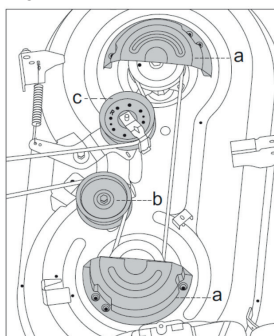

FIG.26
VE COVERS FROM THE BELT (A, FIG. 26) BY REMOVING THE SIX SCREWS THAT SECURE THEM TO THE DECK.
3. REMOVA A POLIA FIXA (B, FIG.26) E A POLIA TENSORA (C, FIG.26).